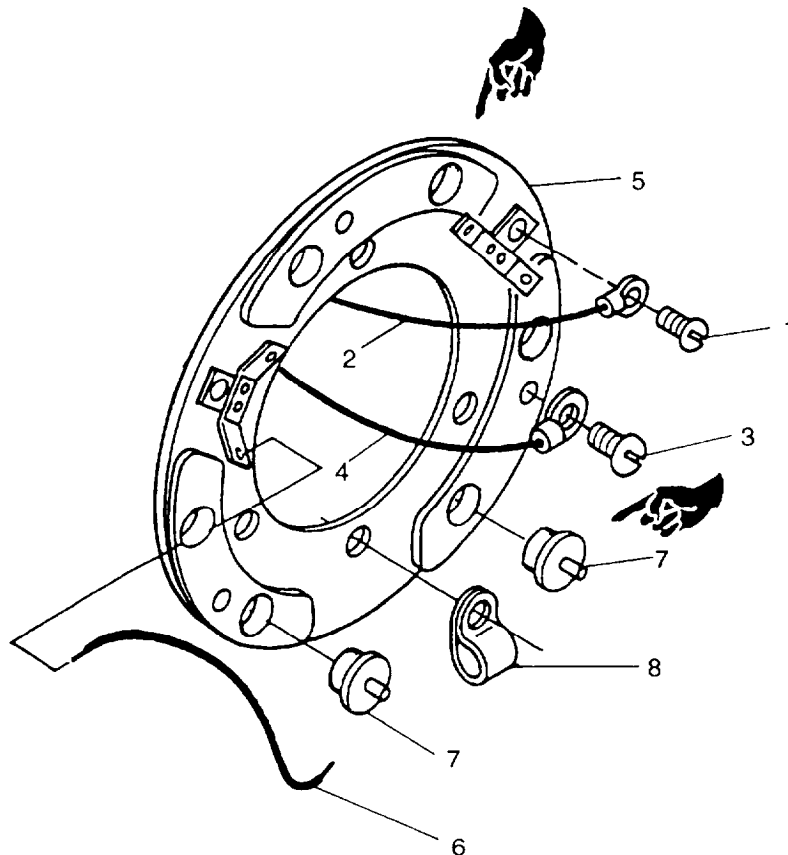
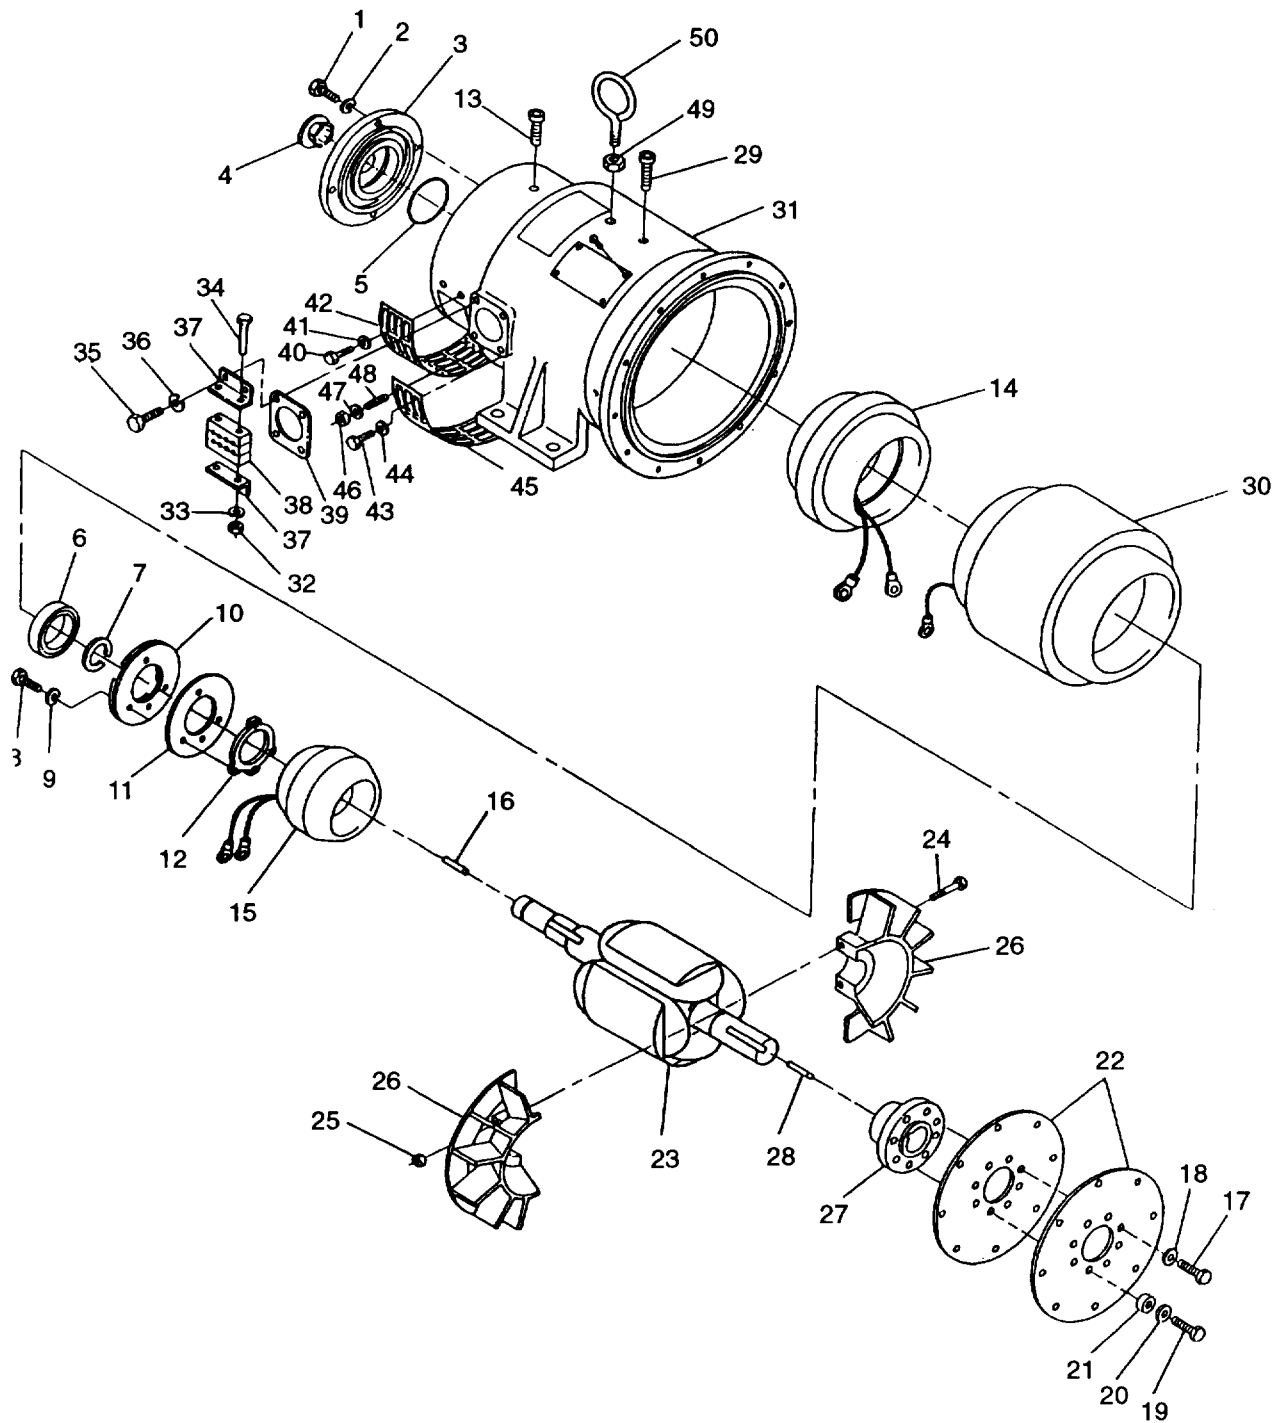

FIGURE 4-9. Rectifier Assembly (MEP-804A)
FIGURE 4-10. Generator Assembly (MEP-804A)
- e. Tag main rotor leads (2, FIGURE 4-9). Remove screws (1) and main rotor leads (2) from diode mounting plate assembly (5).
- f. Tag exciter rotor leads (4). Remove screws (3) and exciter rotor leads (4) from diode mounting plate assembly (5).
- g. Set multimeter for ohms and connect positive lead to one side and negative lead to other side of each diode (7). Record multimeter reading for each diode.
- j. Install exciter leads (4) and main rotor leads (2) to diode mounting plate assembly (5) with screws (1) and (3). Remove tags.
- f. Unsolder electrical lead (6, FIGURE 4-9) from diode (7) being removed.
- g. Press diode (7) from diode mounting plate assembly (5).
- a. Run bead of thermal-electric compound (Item 8, Appendix C) around base of diode (7, FIGURE 4-9) prior to installing.
- b. Press diode (7) into diode mounting plate assembly (5).
- c. Using solder (Item 17, Appendix C) and soldering iron, solder electrical lead (6) to diode (7).
- d. Remove bolts (1, FIGURE 4-10), lockwashers (2), and end bell (3) from generator assembly.
- e. If necessary, remove plug (4) and packing (5) from end bell (3).
- f. Using bearing puller, remove bearing (6) from main rotor assembly (23) shaft and discard bearing
- g. If necessary remove retaining ring (7) from main rotor assembly (23) shaft.
- a. If removed, install retaining ring (7, FIGURE 4-10) on main rotor assembly (23) shaft.
- e. Remove screws (3, FIGURE 4-9) securing exciter rotor leads (3 places) to rotating rectifier. Tag and remove exciter rotor leads.
- f. Remove screws (1), tag and remove main rotor leads (2) from rotating rectifier (2 places).
- g. Remove bolts (8, FIGURE 4-10), lockwashers (9), rotating rectifier (10), and insulating plate (11) from rectifier hub (12).
- h. If necessary, remove clamp (8, FIGURE 4-9) from diode mounting plate assembly (5).
- a. If removed, install clamp (8, FIGURE 4-9) on diode mounting plate assembly (5).
- b. Install rotating rectifier (10, FIGURE 4-10) and insulating plate (11) on rectifier hub (12) with bolts (8) and lockwashers (9).
- c. Connect two main rotor leads (2, FIGURE 4-9) to rotating rectifier with screws (1). Remove tags.
- d. Connect three exciter rotor leads (4) to rotating rectifier with screws (3). Remove tags.
- h. Remove setscrews(13, FIGURE 4-10) from generator housing (31).
- a. Stand generator housing (31, FIGURE 4-10) on end with end bell opening in a downward position.
- b. Position exciter stator (14) in generator housing (31). Ensure exciter stator wires are pointing upward and are in alignment with wiring port on side of generator housing (31).
- e. Tag and disconnect exciter rotor leads (3 places) from rotating rectifier by removing screws (3, FIGURE 4-9).
- j. Connect exciter rotor leads to rotating rectifier with screws (3, FIGURE 4-9) and remove tags.